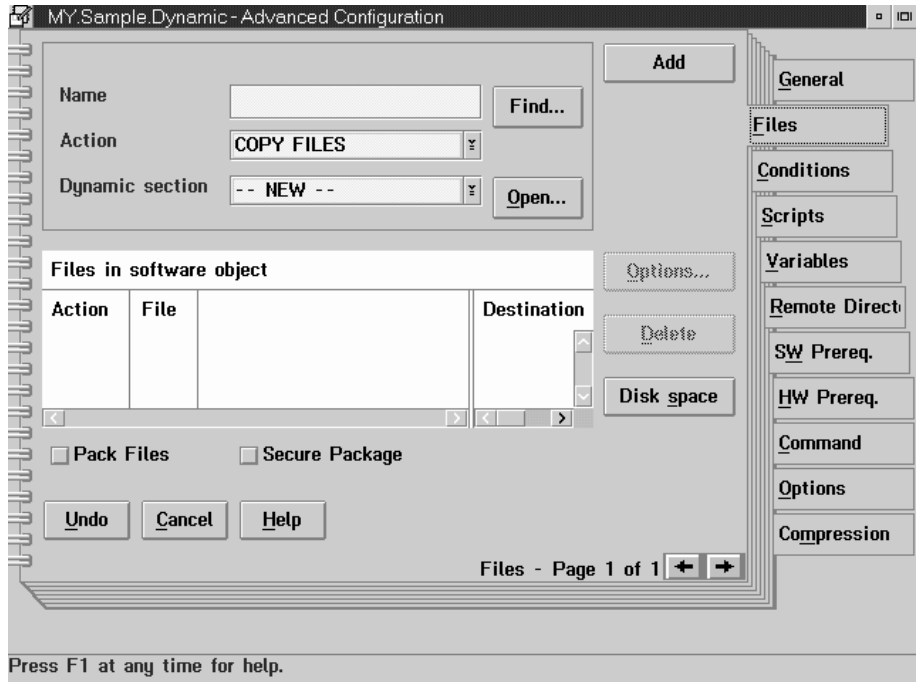

Figure 86. My.Sample.Dynamic - advanced configuration: files page
- 4 Select the **Files** tab. The Files page is displayed, as shown in Figure 86 on page 174.